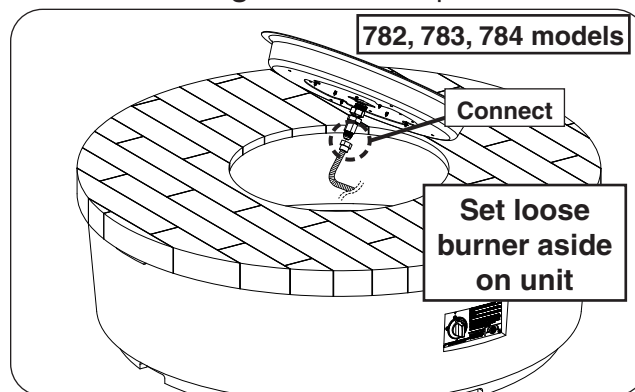

Fig. 32-4 Connect flex (if applicable)
5. **782, 783, 784 Models:** Locate the burner assembly and the flex connector (marked **OUT**) that is coming off the valve assembly. Route the flex to the connection found on the underside of the burner assembly and connect. Tighten securely. Set the burner off to the side. See Fig. 32-4.